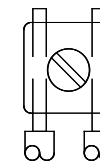

Figure 2
2. Break all in-out wire runs on supervised circuits to assure integrity of circuit supervision as shown in Figure 2. The polarity shown in the wiring diagrams is for operation of the appliances.